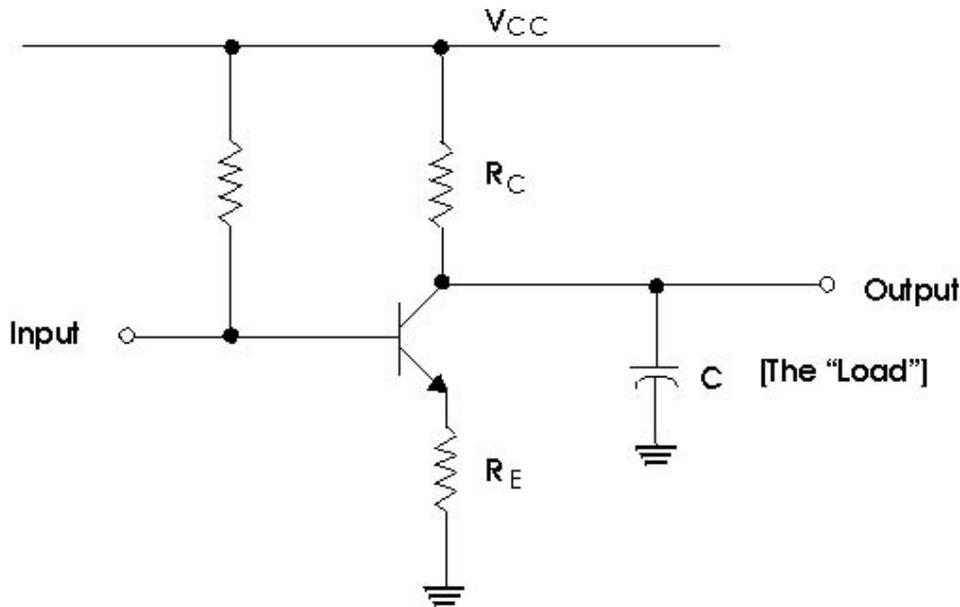

Figure 1
Look at the simple one-transistor amplifier in **Figure 1**. The gain of the circuit is given by equation EQ-5 while the bandwidth is given by equation EQ-6.
Let's look again at the circuit in **Figure 1**. Suppose we lower R_e to increase the GBW, but we want to keep the same
gain. Then we must also lower R_c . In amplifiers such as figure 1, the average (DC) voltage across R_c is approximately half the supply voltage. So the power (P) dissipated in R_c is